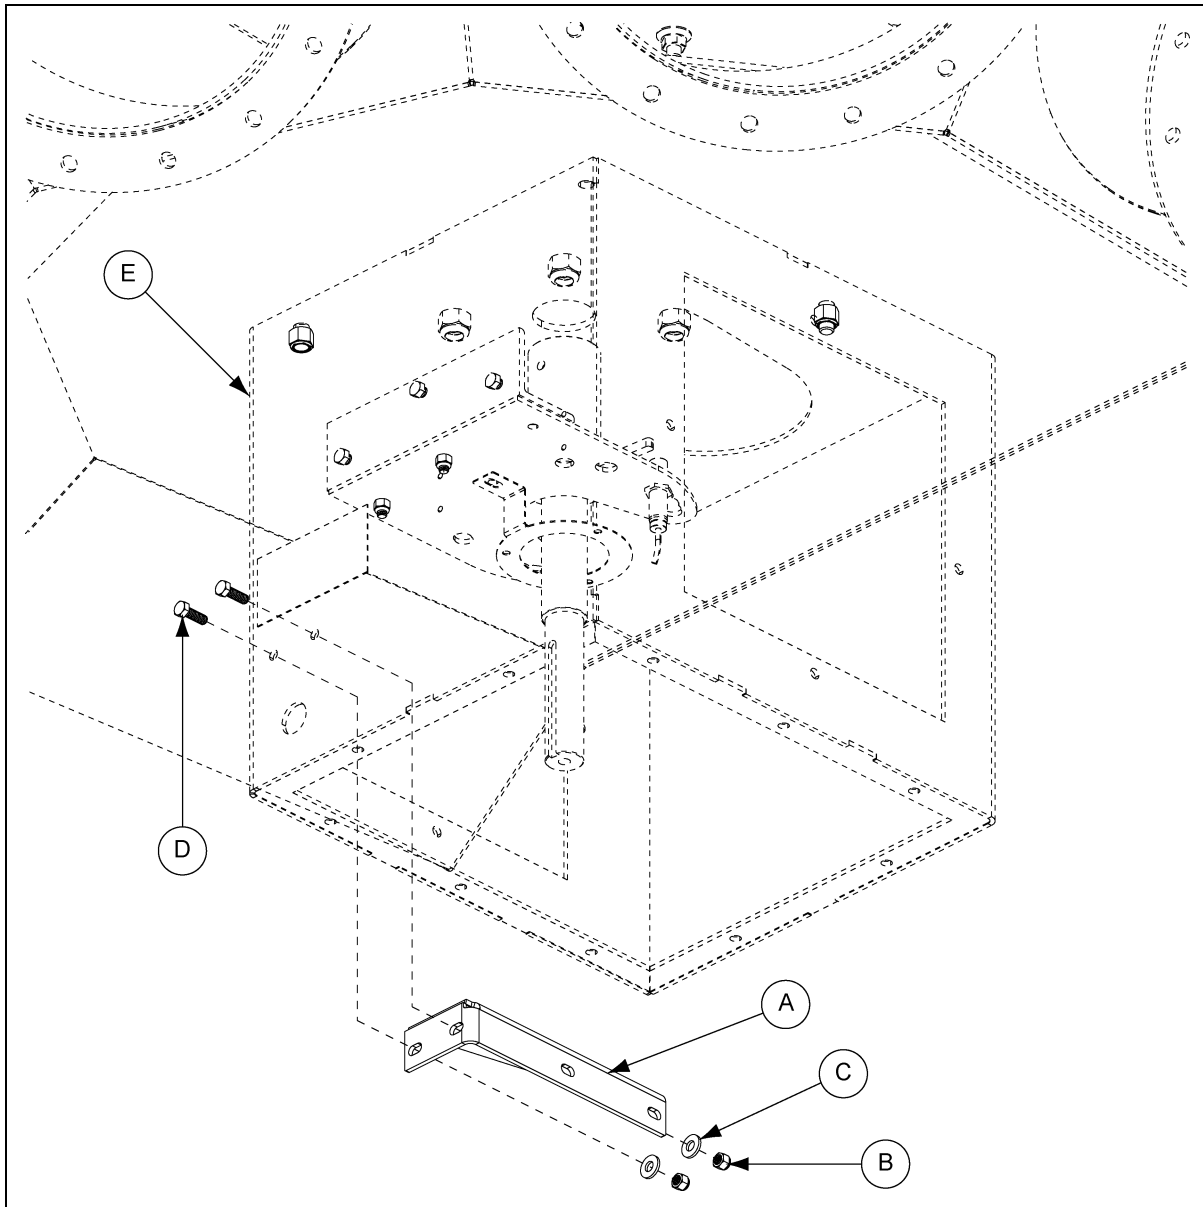

Figure 6L Motor Mounting Bracket
Install the motor mounting bracket (DEC0003) (A) to the enclosure (DEC0005) (E) using two (2) 1/4"-20 x 3/4" HHCS bolts (S-1429) (D), 1/4" washers (S-2126) (C) and 1/4"-20 nylock nuts (S-7025) (B) as shown in Figure 6L.